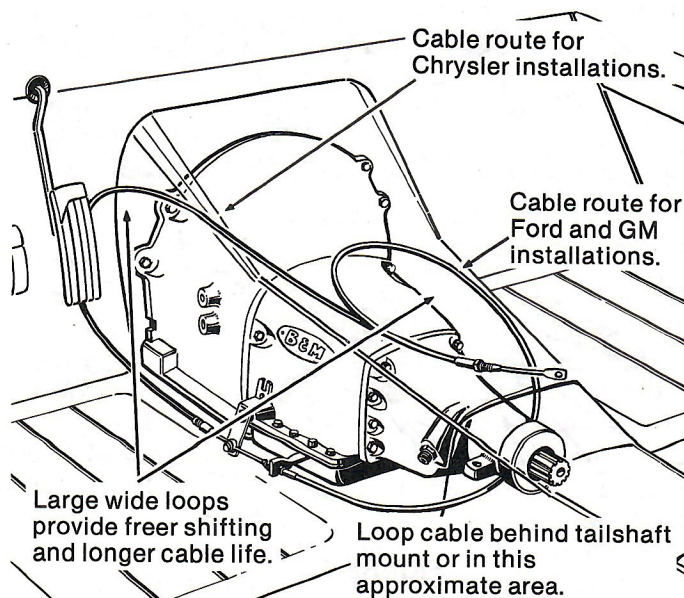

FIGURE 4
Step 8. Install shifter mechanism into vehicle. Slide shifter cable through carpet and cable hole in floor. Shifter mechanism should be level when installed. Inspect bottom of chrome shifter handle for interference with floor. If there is interference with the floor, use 1/4" flat washers as shims to raise and level the shifter mechanism as necessary when installing it. **Make sure cable is routed according to Figure 4 to avoid sharp bends or damaged to the cable.** Install 1/4"x1" bolts, washers, lockwashers, and nuts (supplied) through the shifter and floorboard and tighten securely. Note: Some floorboards are extremely thin and will not adequately support the shifter mechanism when bolted to the floor, resulting in excessive shifter wobble. For those vehicles, we recommend you fabricate a stiffener plate for additional strength. Seal cable shut securely to prevent entry of exhaust gases.
Step 11. Remove two boots (5), one large nut (7), and a large lockwasher from the end of the shifter cable. Route the shifter cable according to figure 4. **Avoid sharp bends and route the cable away from hot engine and exhaust parts.** Cable may be secured up out of the way with nylon cable ties.
Step 16. Remove two boots (8), one large nut (7), and a lockwasher from the end of the shifter cable. Route the shifter cable according to figure 4. **Avoid sharp bends and route the cable away from hot engine exhaust parts.** Cable may be secured up out of the way with nylon cable ties. Slide the cable into the cable bracket, install lockwasher and large nut (7) over end of cable. Loosen large nut (7 or 10) and position cable so the threaded portion of the cable housing is centered in the cable bracket. Tighten both large nuts (7 or 10) to hold the cable in this position. Install two boots (8) onto end of cable.
Step 17. Move selector lever to full rear position. Refer to **Shifter Operation** on page 8 of the instructions and operate shifter to the First (low) gear position. Install swivel fitting (5) onto end of cable and adjust until small end of swivel will slide freely in and out of selector lever hole in each gear position. Note: Swivel may have to be adjusted one turn in either direction. Install cotter key supplied with shifter into swivel and spread key ends. Go to step 23.
Step 21. Remove two boots (6), one large nut (5), and a lockwasher from the end of the shifter cable. Route the shifter cable according to Figure 4. **Avoid sharp bends and route the cable away from hot engine and exhaust parts.** Cable may be secured up out of the way with nylon cable ties. Slide the end of the cable through the cable bracket. As you slide the cable into the cable bracket, install lockwasher and large nut (5) over end of cable. Loosen large nut (4) and position cable so the threaded portion of the cable housing is centered in the cable bracket. Tighten both large nuts (4) and (5), to hold the cable in this position. Install two boots (6) onto end of cable.
Step 22. Move selector lever to full rear position. Refer to **Shifter Operation** on page 8 of the instructions and operate shifter to the First (low) gear position. Install swivel fitting (7) onto end of cable and adjust until small end of swivel will slide freely in and out of selector lever hole in each gear position. Note: Swivel may have to be adjusted one turn in either direction. Install cotter key into swivel and spread key ends. Go to step 23.